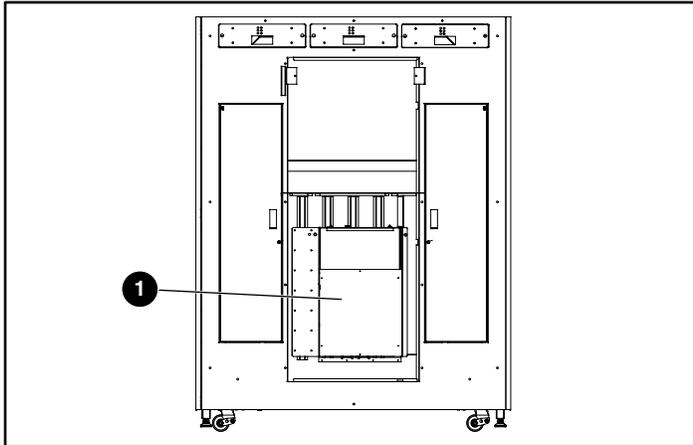

Figure 5: Removing the electronics cover
- ❶ Fan assembly
- ❷ Screws
- ❸ Electrical box
4. Remove the six screws securing the cover to the electronic bay (see Figure 5).